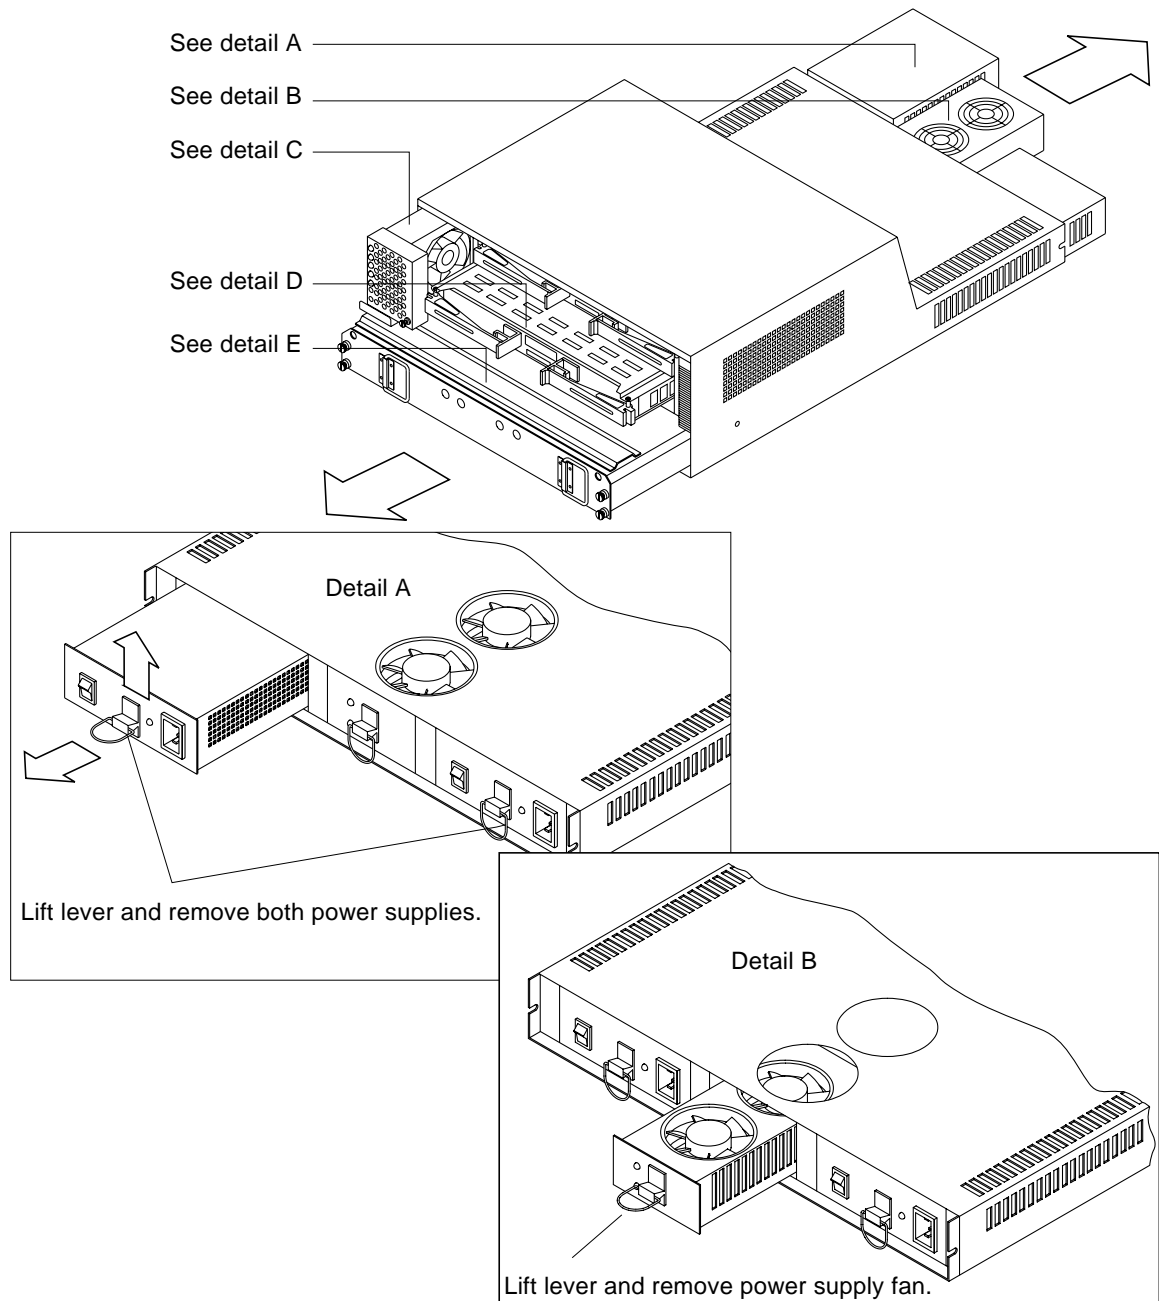
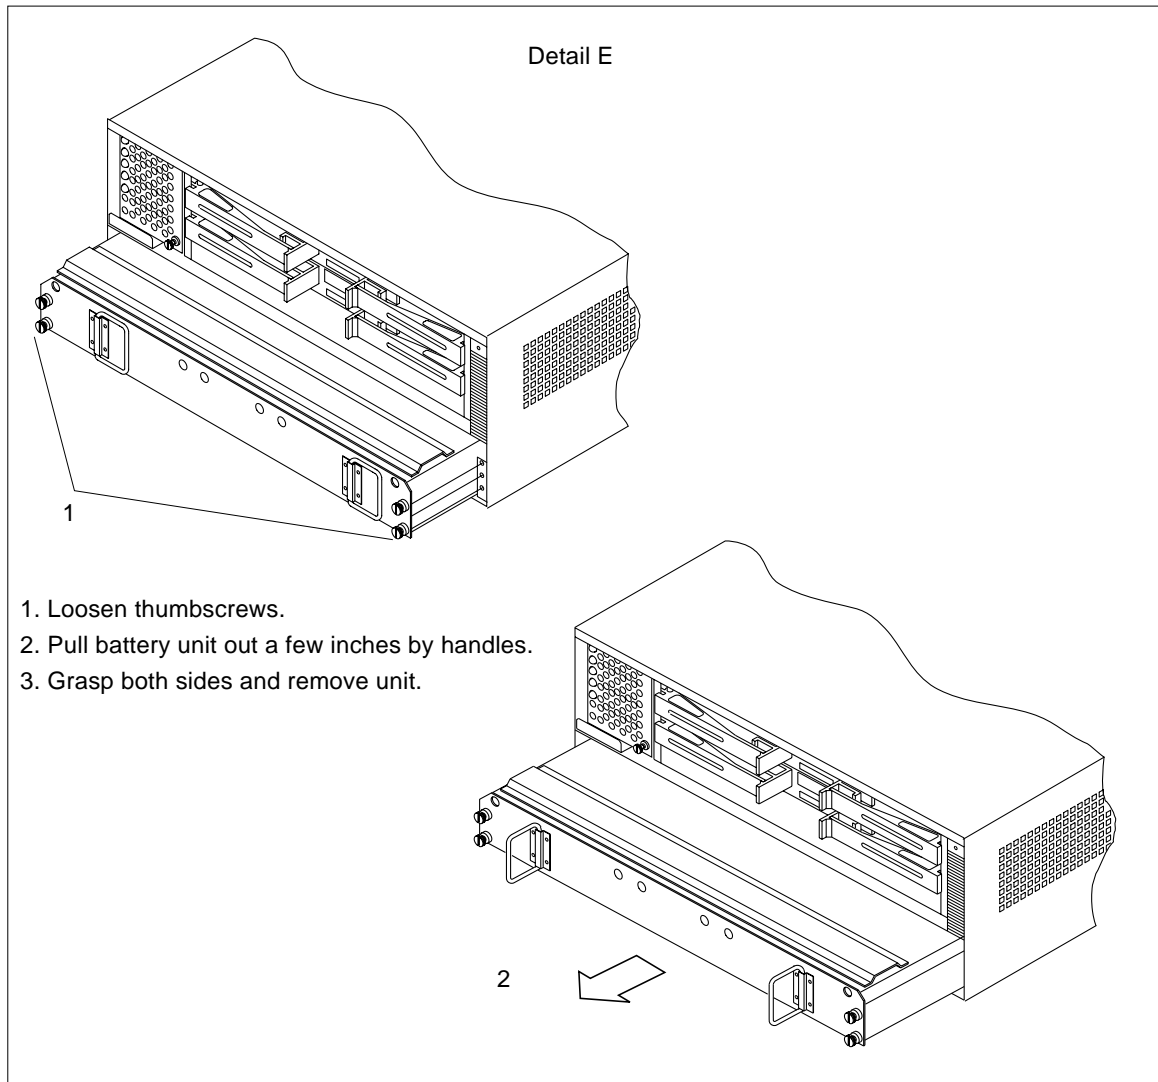

FIGURE 1-10 Removing the Canisters—Power Supplies and Power Supply Fan
FIGURE 1-12 Removing the Canisters—Battery
3. Remove the canisters (FIGURE 1-10, FIGURE 1-11, and FIGURE 1-12).